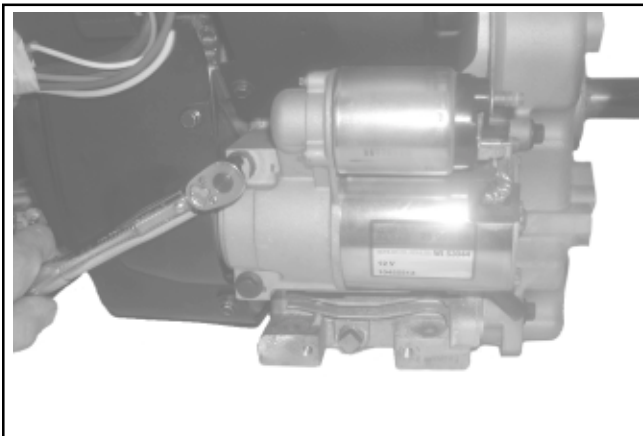

Figure 11-72. Installing Electric Starter Motor.
1. Install the starter motor using the two hex. flange screws. See Figure 11-72. Some inertia-drive starters have a pinion cover and spacers on the starter bolts.